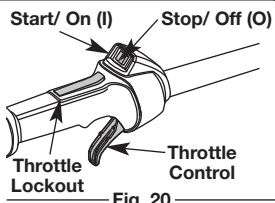

Fig. 20
- NOTE:** There is no need to turn the unit on. The On/Off Control is in the ON (I) position at all times (Fig. 20).
2. Press and hold the On/Off Control switch in the **OFF (O)** position until the unit comes to a complete stop (Fig. 20).